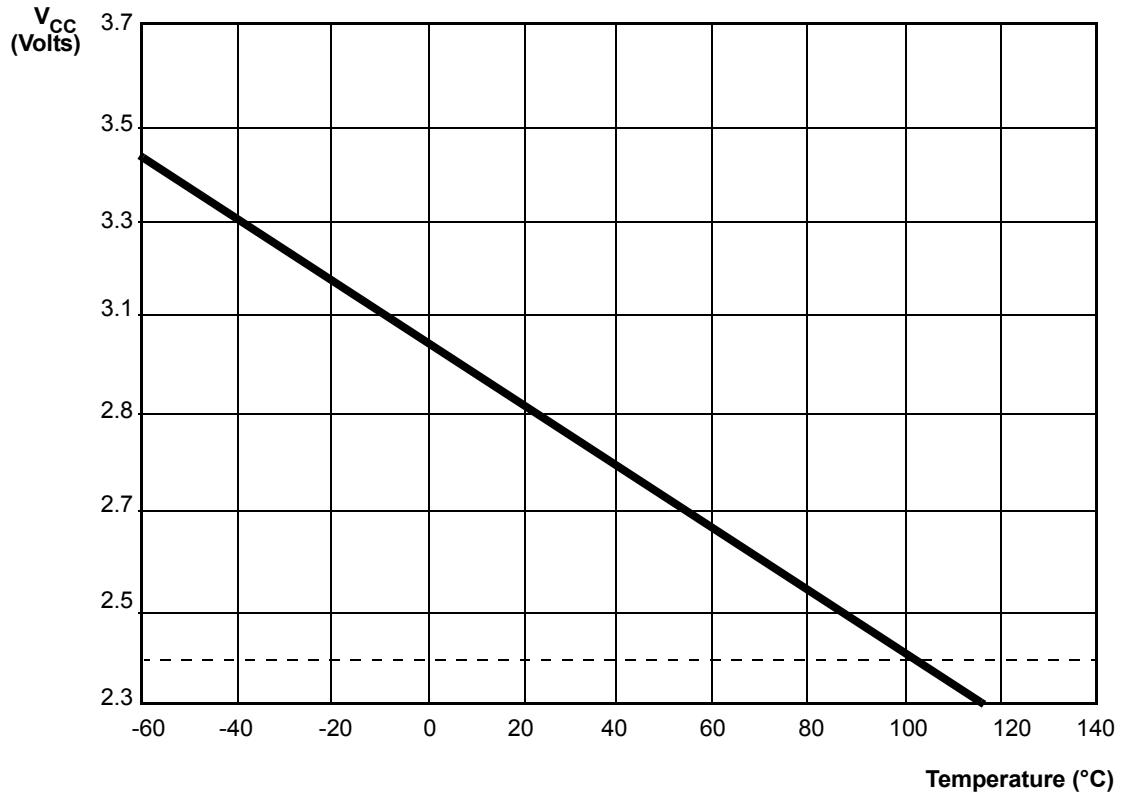

Figure 35. Typical  $V_{LV}$  Voltage vs. Temperature
**Auto Reset Voltage.** An on-board Voltage Comparator checks that  $V_{CC}$  is at the required level to ensure correct operation of the device. Reset is globally driven if  $V_{CC}$  is below VLV (Figure 35).